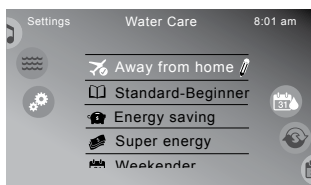

Figure 12.1b
-  = **Pencil Icon:** This icon will appear next to the water care mode that has been programmed. Tap to enter that mode to make changes, Figure 12.1b.